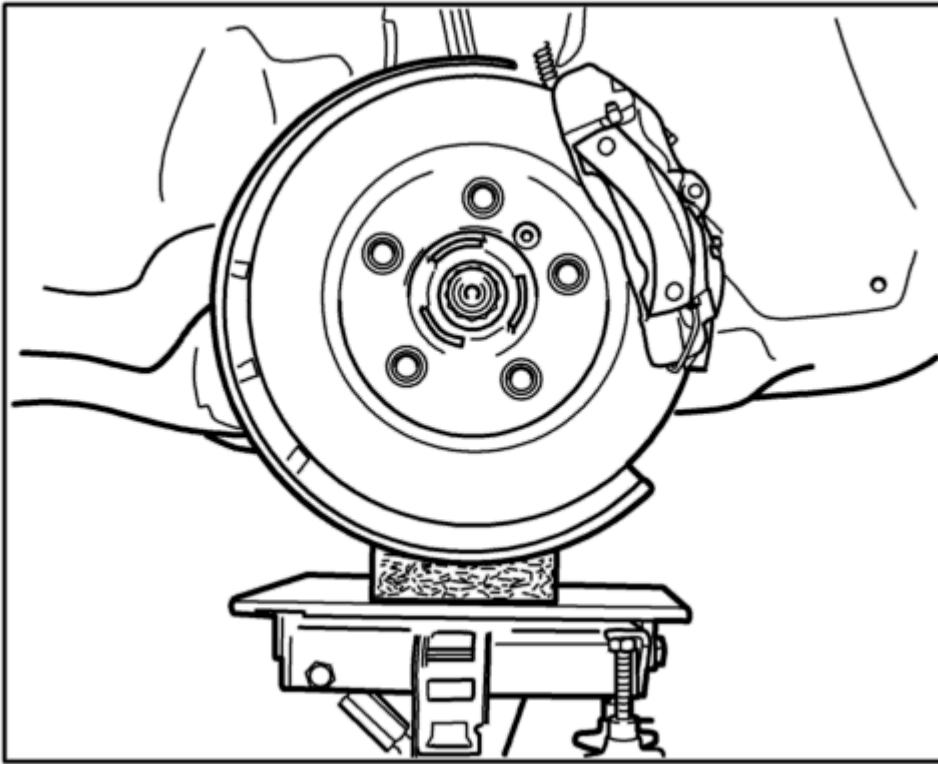

Fig. 97: Supporting wheel with rubber based lift (prevent slipping)
- **Use an intermediate layer --> see figure (hard rubber). Do not damage the brake cover plate. See Fig. 97.**
4. Mount wheel carrier on upper trailing arm. When doing this, observe drive shaft clearance (use suitable base). To facilitate assembly and avoid the upper ball pin falling into the stop, raise the wheel carrier slightly with a suitable lift so that the upper ball pin can be inserted. Use a --> *see figure* lift with rubber base in order to prevent slipping. See **Fig. 97**.